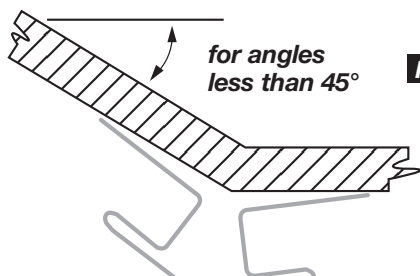

FIGURE 2
- For angles less than 45°, push down on the face of the corner until the nail flanges seat flat against the wall surfaces (figure 2).